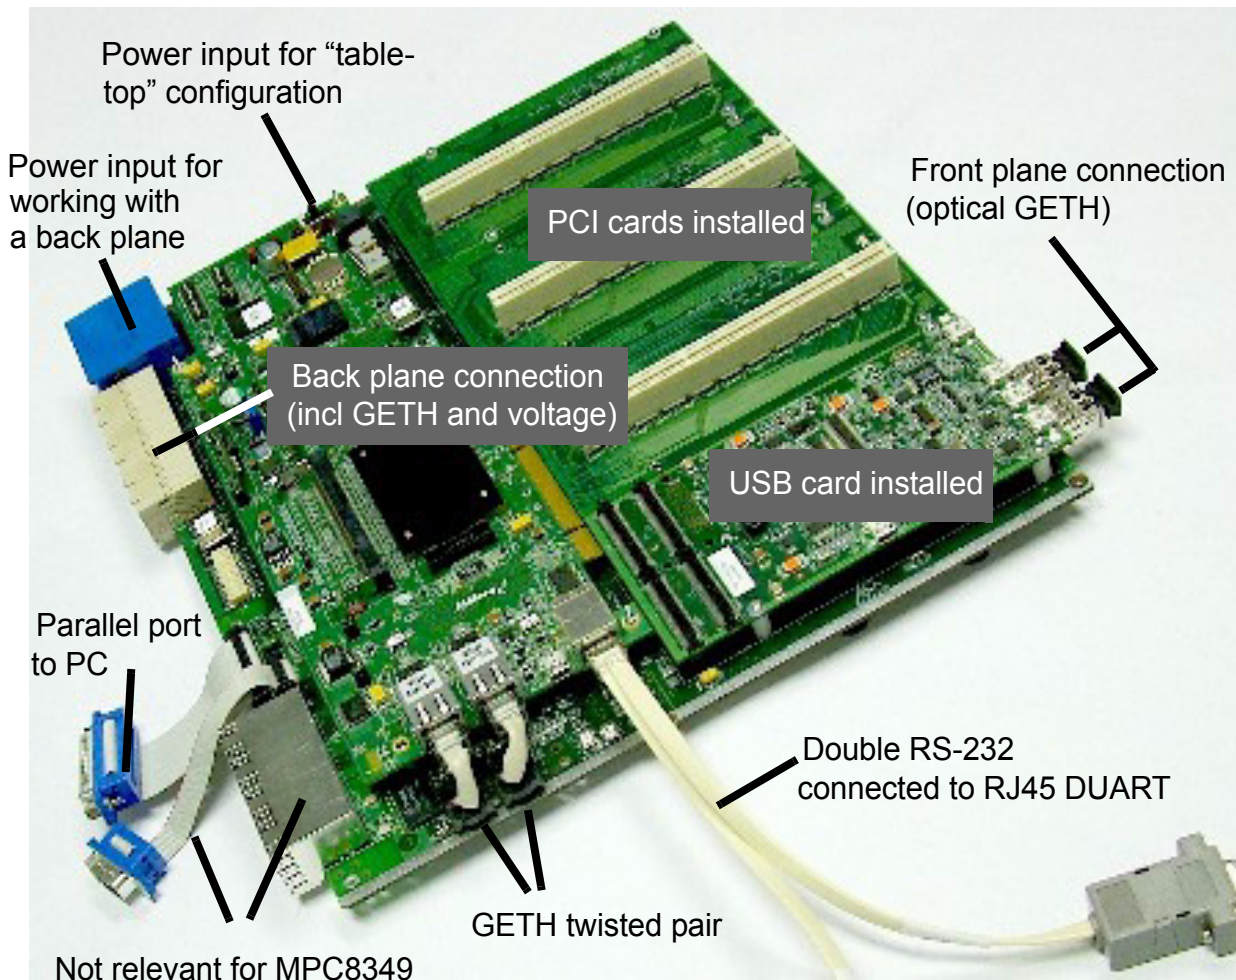

Figure 2-14 Fully Assembled Combined system: PIB, Processor Board, USB, and PCI cards
9. The fully assembled PIB-Processor board is shown in Figure 2-14, which also shows the PIB external connections relevant when the MPC8349 is used.